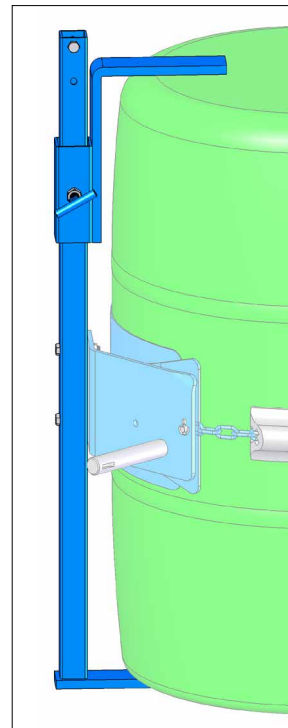

Figure 2.1
1. **Bracket Assembly Kit # 4556-P** is required to handle a RIMLESS plastic drum (figure 2.1), and is also recommended for a fiber drum. The Bracket adjusts for a 31" to 39" (79 to 99 cm) tall drum. You can also handle a rimmed drum with the Bracket installed.